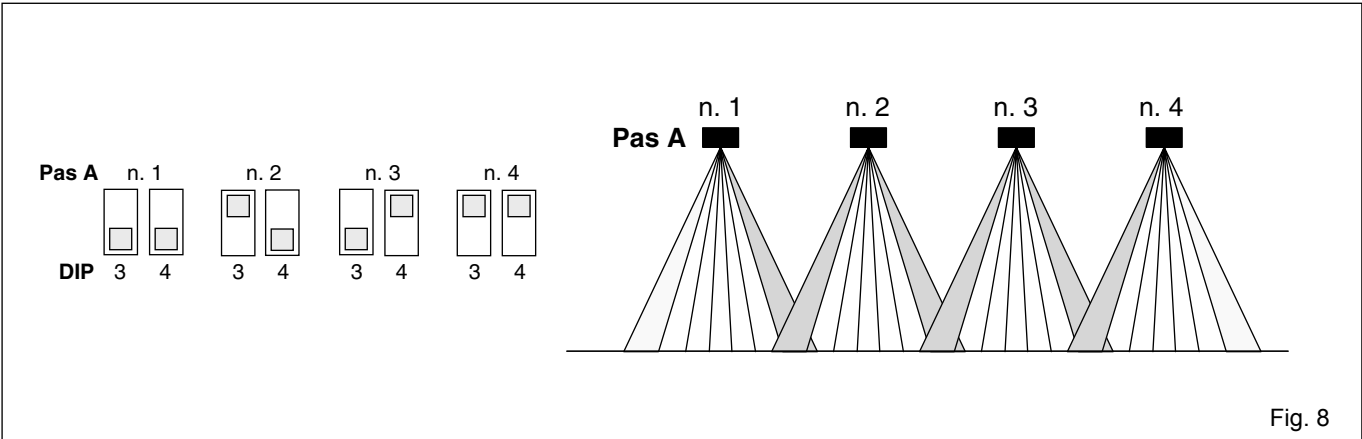

Fig. 8
4.4 (Fig. 8) Frequency adjustment: